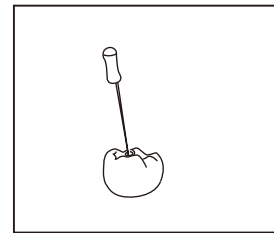

Fig.10
- 5) Insert the file into the canal.(Fig.10)